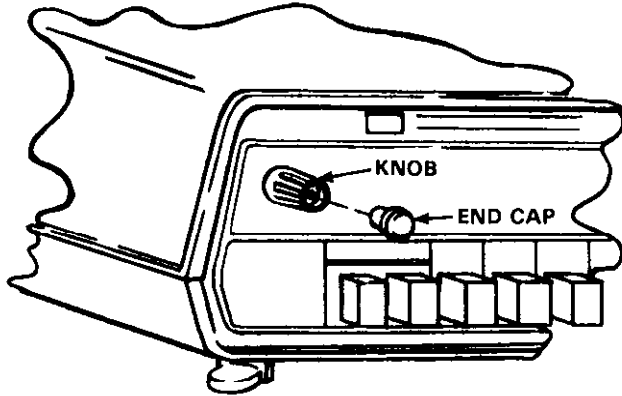

Figure 5-3. Front Panel Zero Knob Removal
1. Carefully remove the end-cap (shown in Figure 5-3) using a thin-bladed instrument.